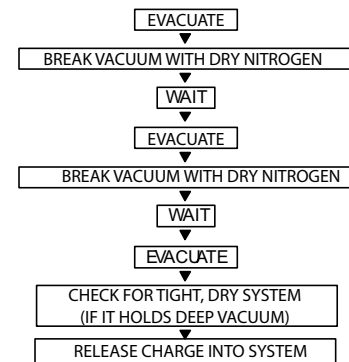

Fig. 28 — Triple Evacuation Method
The triple evacuation method should be used when the vacuum pump is not capable of pumping down to 500 microns and system does not contain any liquid water. Refer to Fig. 28 and proceed as follows:
5. Repeat this procedure as indicated in Fig. 28. System will then be free of any contaminants and water vapor.